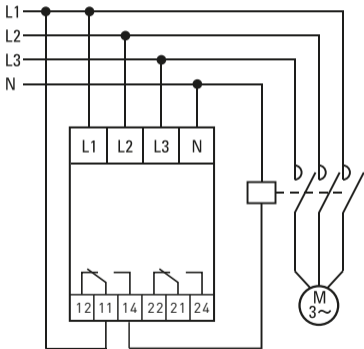

Figure 4 - Relay wiring diagram
2. Connect the relay as per wiring diagram (Fig.4).